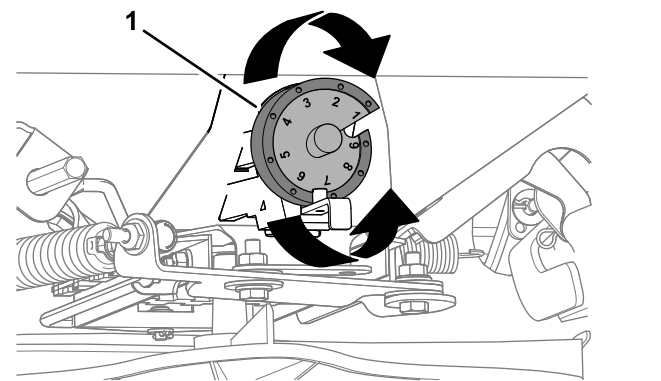

Figure 27
- Rotate the drop rate cam (Figure 27) to the cam setting you determined in step 4.